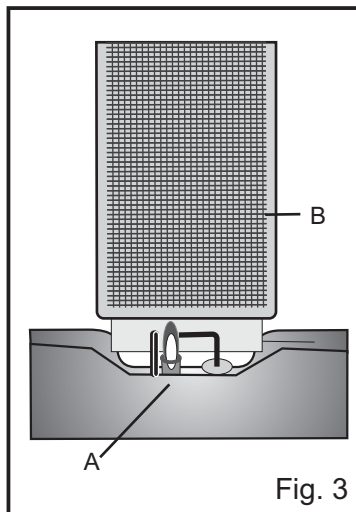
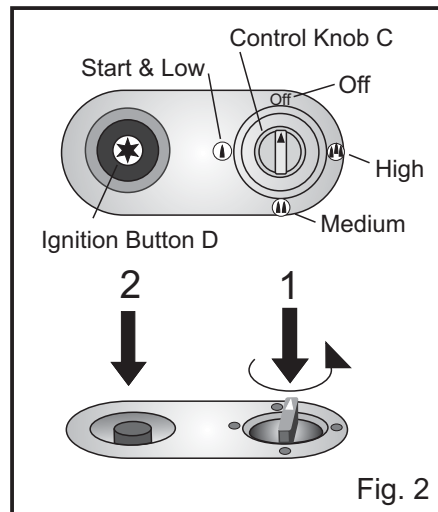

Fig. 3
Fig. 2
- Open the cylinder valve 1½ turns. Push the control knob C (Fig 2) to the Low position and hold it down. Whilst holding the control knob down push the ignition button D down (Fig 2). The pilot flame A should ignite (Fig 3). If it doesn't ignite, release the button and push it down again. Once the pilot flame has ignited, release the ignition button but continue to hold down the control knob for approximately 15 seconds before releasing it. The pilot flame should remain alight and should automatically ignite the centre infra red heater panel B.
- To increase the heat output by using two panels, push the control knob C down and turn it to the medium position (Fig 2). This will automatically ignite the first of the two of the side panels. It is not necessary to hold the control knob down once it has been set to the medium position.
- To increase the heat output to the maximum level push the control knob down and turning it to the High position (Fig 2). This will automatically ignite the other side panel. It is not necessary to hold the control knob down once it has been set to the maximum position.
- To reduce the heat output, push the control knob down and turning it to the next lower position (Fig 2). This will automatically turn off the deselected panel. It is not necessary to hold the control knob down once it has been set to the new position.
- To completely turn off the heater turn the control knob to the **Off** position (see Fig 2). When the heater panel and pilot light are extinguished, close the cylinder valve making sure it is properly closed by turning it in a clockwise direction as far as it will go. **Never leave the heater whilst not in use with the cylinder valve open.**